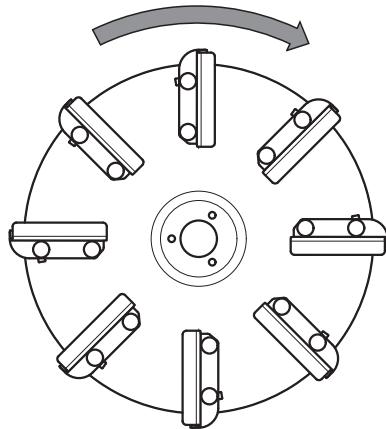

Figure 7.10: Rotational direction of the spreading disc
1. Observe the rotational direction of the spreading discs. Refer to figure 7.10.